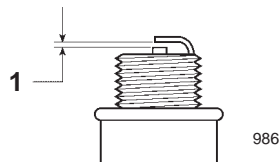

Figure 11
4. Set the gap on the new plug to 0.030 in. (0.76 mm) (Fig. 11).